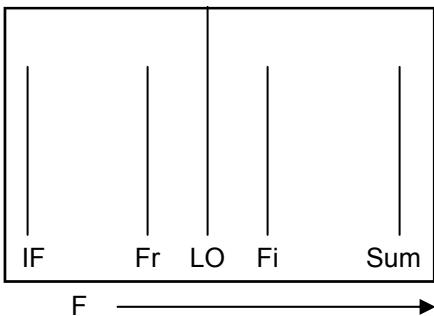

Figure 1
have to be set at  $118.300\text{ MHz} + 10.700\text{ MHz}$  or  $129.000\text{MHz}$ . It would then be sent to the mixer and on the output there would be  $129.000\text{MHz}$  (LO),  $118.3\text{MHz}$ (Fr),  $247.3\text{MHz}$ (Sum) and  $10.700\text{MHz}$  (IF). (See Figure 1) After the mixer we use a narrow-band filter (E) to reject everything but the  $10.7\text{MHz}$  IF signal output from the mixer. This works well because  $10.7\text{MHz}$  is far from the next highest frequency,  $118.3\text{MHz}$ , so it's easy to reject everything but the signal of interest. However, there is another signal you can receive that is  $10.7\text{MHz}$  above the LO frequency. This is called the image frequency, and can be a real hassle in radio designs. In this case we could receive not only  $118.3\text{MHz}$  but also  $139.7\text{MHz}$  ( $2x\text{ IF} + \text{Fr}$ ). In this case this "image" is only  $700\text{kHz}$  outside the band of interest and is almost impossible to filter out.